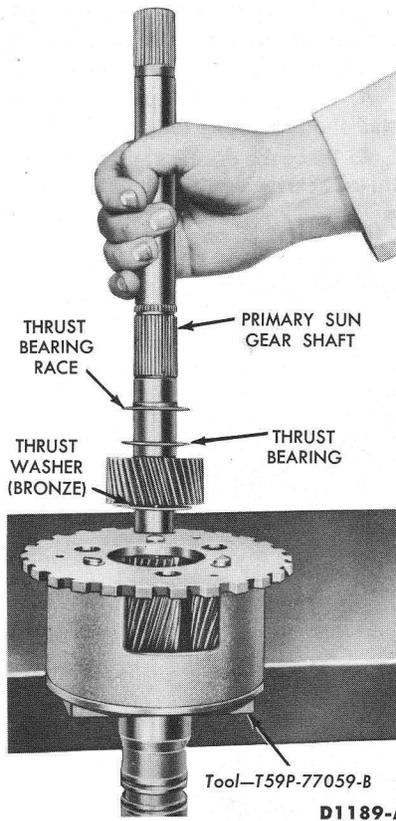

FIG. 18—Primary Sun Gear Removal or Installation
5. Remove the integral primary sun gear and shaft (Fig. 18).
7. Place the primary sun gear shaft in the pinion carrier (Fig. 18).